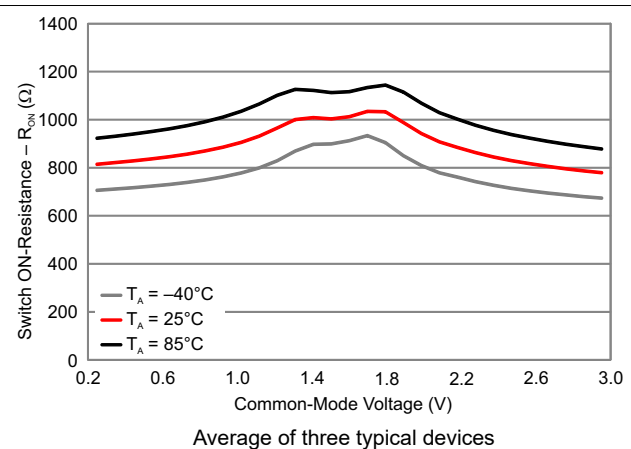

图 8-29. OA Switch R_{ON} vs Common-Mode Voltage
- (1) This leakage includes all leakage seen at the device pin, not only leakage caused by the switch itself. It assumes a total of five switches present and a shared digital I/O.
- (2) The resistance varies with input voltage range. This resistance represents the peak resistance at the worst case input range (see 图 8-29).